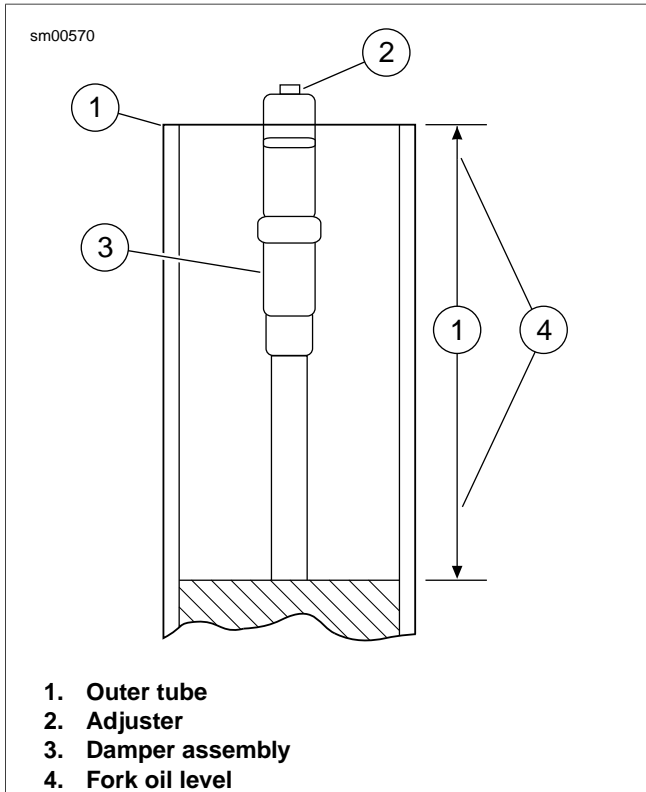

Figure 2-100. Measuring Fork Oil Level
- See Figure 2-100. With fork completely collapsed, adjust fork oil level with FRONT FORK OIL LEVEL GAUGE (Part No. B-59000A) to the specified level below the top of the outer tube. Refer to Table 2-26.